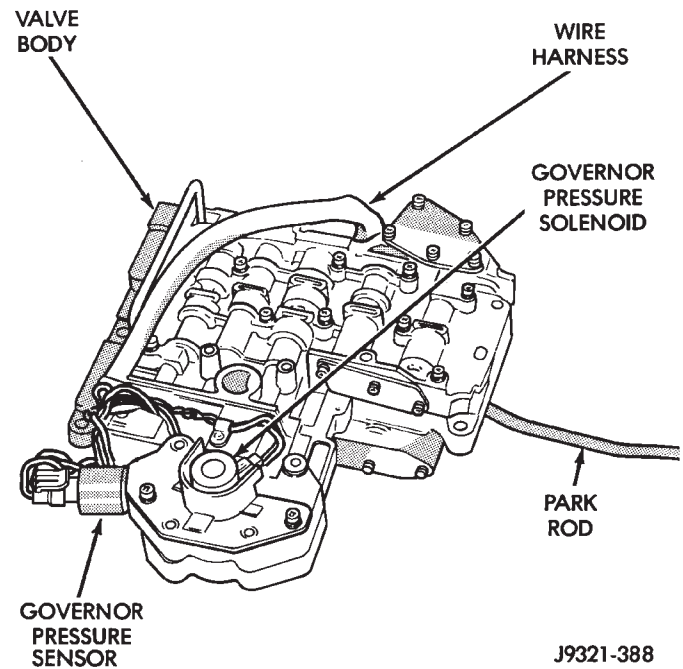

Fig. 14 42RE Valve Body
- (6) Position drain pan under transmission oil pan.
- (7) Remove transmission oil pan and gasket.
- (8) Remove fluid filter from valve body.
- (9) Remove bolts attaching valve body to transmission case.
- (10) Lower valve body enough to remove accumulator piston and springs.
- (11) Work manual lever shaft and electrical connector out of transmission case. Then lower valve body, rotate it away from case, pull park rod out of sprag and remove valve body (Fig. 14).